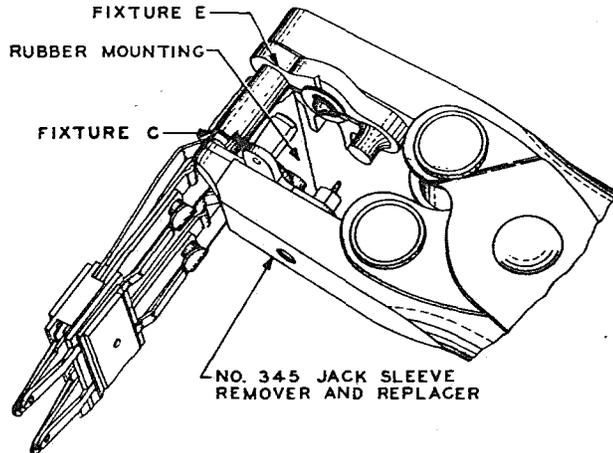

Fig. 9 - Method of Forcing Sleeve Forward, Flush with Face of Rubber Mounting
3.17 With fixture E of the No. 345 jack sleeve remover and replacer inserted in the face of the jack; and fixture C inserted in back of the sleeve, as shown in Fig. 9, force the sleeve forward by bringing the jaws together until the front of the sleeve is flush with the face of the rubber mounting.